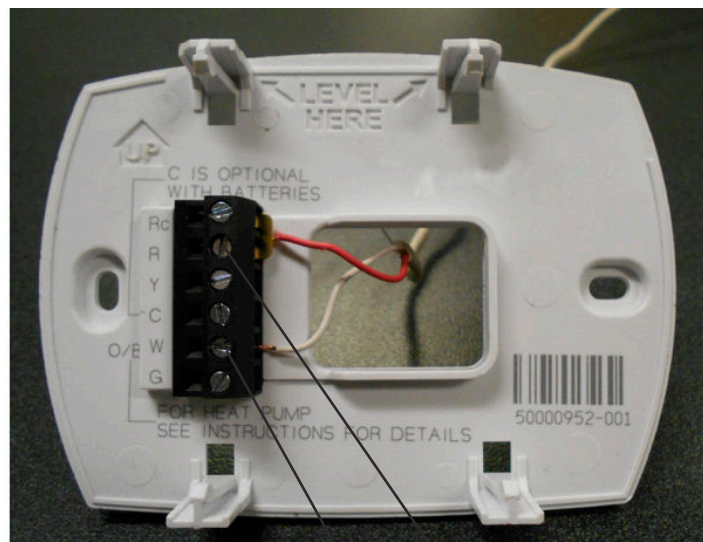

Figure 22.2
2. Connect your thermostat wire to the W and R terminals (see **Figure 22.2**)